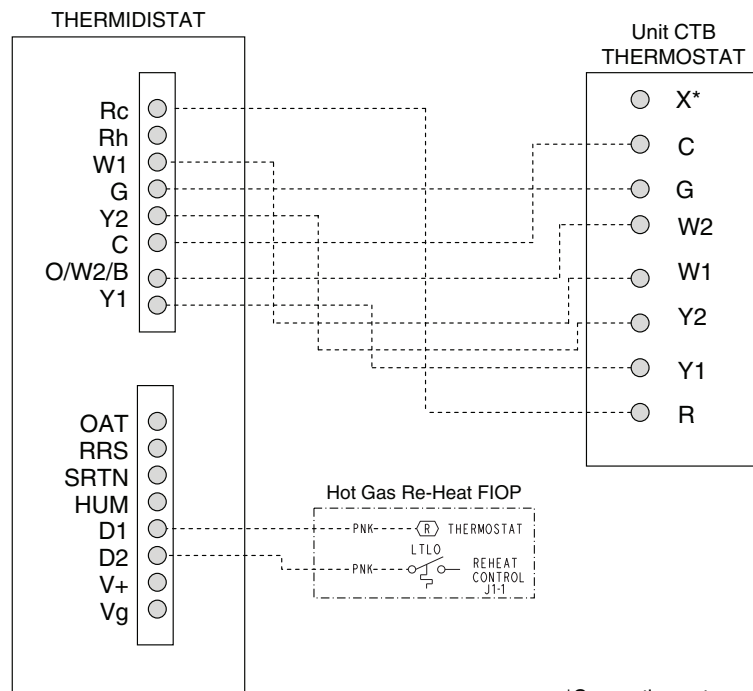

Fig. 34 — Thermostat Device Connections for RAH Unit with Hot Gas Re-Heat Dehumidification System
3. The programmable thermostat has dry contacts at terminals D1 and D2 for dehumidification operation (see Fig. 34). The dry contacts must be wired between CTB terminal R and the PNK/BLK lead to the LTLO switch with field-supplied wire nuts. Refer to the installation instructions included with the programmable thermidstat device for more information.